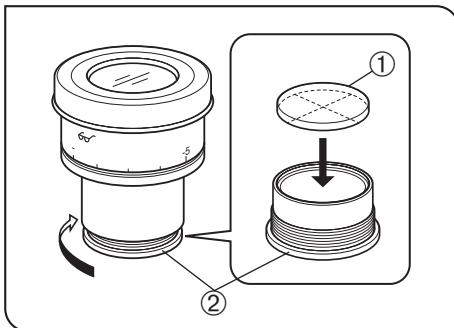

Fig. 36
### 3 Mounting the Eyepiece Micrometer Disk (Fig. 36)
Following Fig. 36, turn the built-in micrometer-mounting frame ② to the arrow direction to remove it from the eyepiece and place a micrometer disk ① into the mounting frame so that the surface with the model indication faces downward.